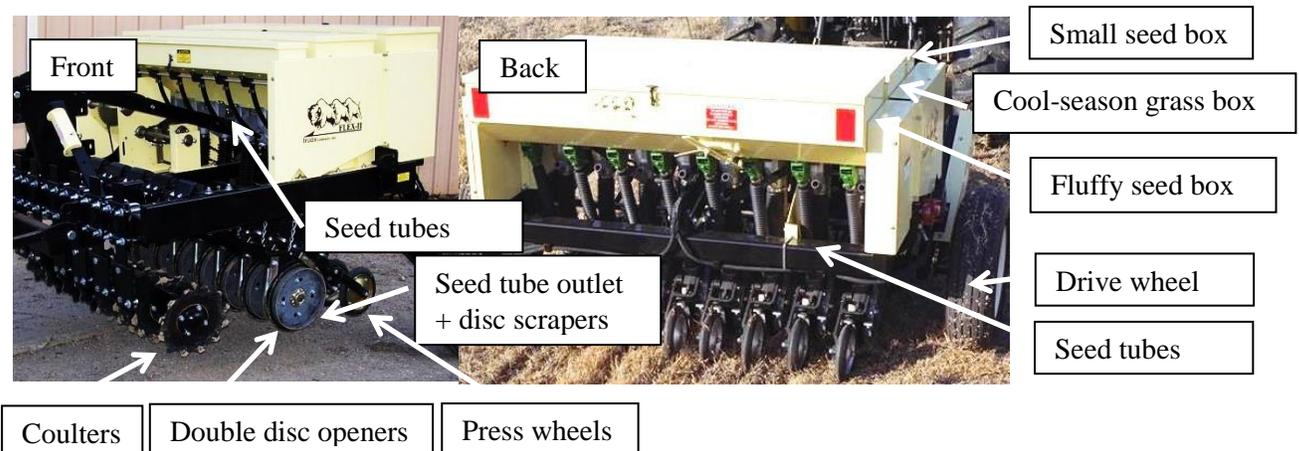

Fig. 1: Flex II drill, manufactured by Truax Company, Inc, New Hope, MN.
2. The seed box agitators are operated by the drive wheel on the right-hand side (Fig. 1). The pin of the drive wheel must be locked to operate the drill. Remove the pin of the drive wheel while transporting the drill.
- ✓ Seed mixes are usually distributed in separate bags with one containing the grass (fluffy) seed and the other containing the forb (wildflower) seed. The grass seed should be put into the fluffy seed box and the forb seed put into the small seed box (Fig. 1).